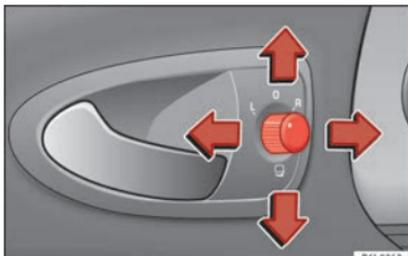

Fig. 131 Exterior mirror controls.
1. Turn knob »» Fig. 131 to position **L** (left exterior mirror).
- Turn the control »» Fig. 131 to position to fold in the exterior mirrors. You should always fold in the exterior mirrors if you are driving through an automatic car wash. This will help prevent damage.